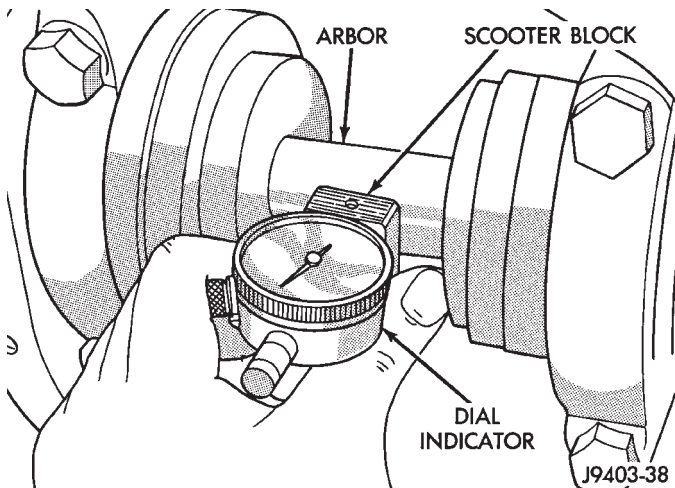

Fig. 48 Pinion Depth Measurement
(3) Firmly place Scooter Block and Dial Indicator on pinion height block tool and zero the dial indicator pointer.
(4) Slide the Scooter Block across the arbor while observing indicator (Fig. 48). Record the longest travel distance, whether inward (-) or outward (+), indicated by the pointer.